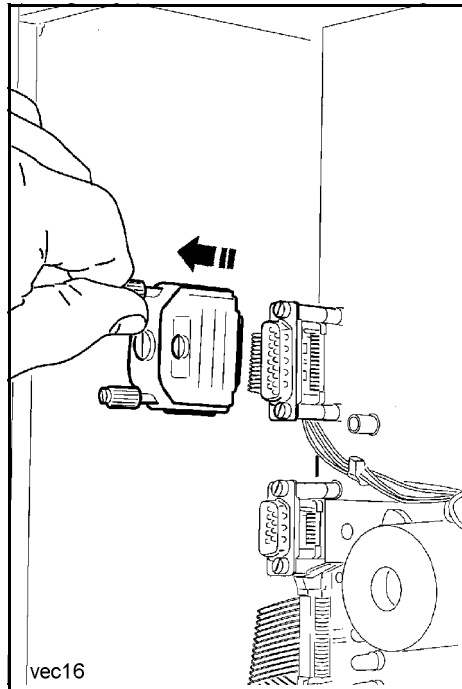

Fig. 106 Removing the teach key
- Remove the teach key (**Fig. 106**).